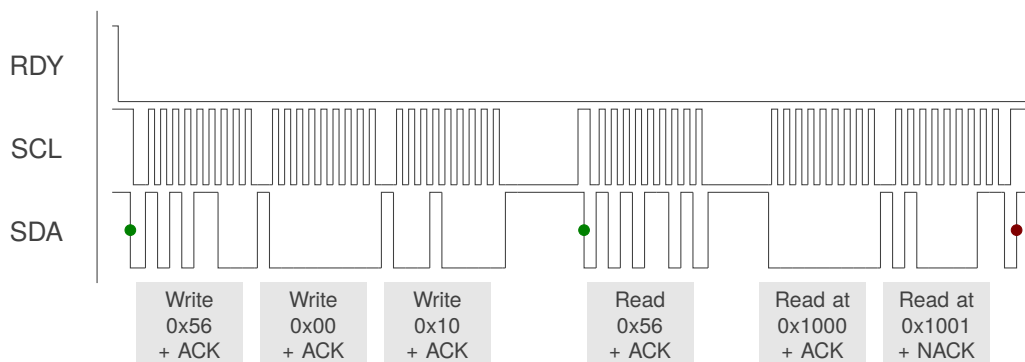

Figure 12.1: I²C Read Example — Read System Control Registers 0x1000 and 0x1001
A typical read operation is displayed in Figure 12.1. The master device waits for the RDY line of the IQS396 to go low, indicating the availability of new data and an available communication window. Once the RDY interrupt is triggered, the master initiates communication by sending a start condition followed by the device address and a write command. The IQS396 responds with an acknowledgement, after which the master device will transmit two bytes defining the register address. The master then sends a repeated start condition, followed by the device address with a read command. The IQS396 transmits data from the requested address and will continue to do so while the master acknowledges each byte. The read operation is ended when the master does not acknowledge the last byte received and produces a stop condition.
- > Read the *System Control* Registers (0x1000 and 0x1001) as illustrated in Figure 12.1.
With the *Terminate Comms Window* setting enabled in the *Power Settings* register, a standard I²C STOP ends the current communication window. If multiple I²C transactions need to be done, then they should be strung together using repeated-start conditions instead of giving a STOP. Allowing an I²C STOP to terminate the communication window is the recommended method, as illustrated in Figures 12.1 and 12.2.